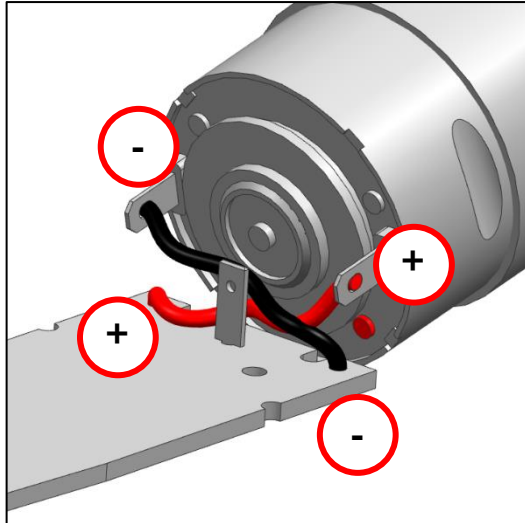
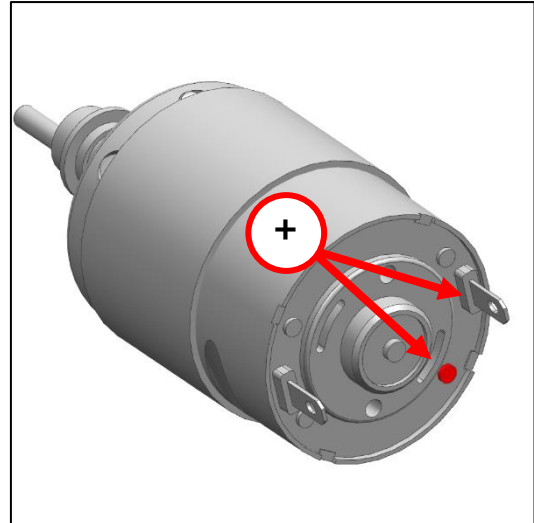

Fig. 40
Fig. 41
- a) Solder the front wires of the circuit board to the motor (Fig. 40, Fig. 41).
Caution: Ensure the polarity in accordance with the marking on the rear motor bearing plate (Fig. 41).